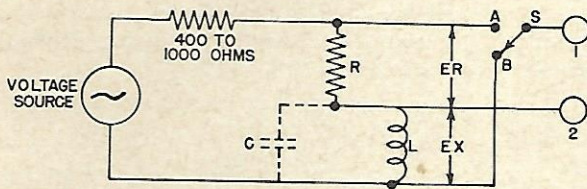

Figure 7.9—Measurement of Impedance
coupling are used, the frequency range may be extended to high radio frequencies. In Figure 7.9 the oscillograph is connected to terminals 1 and 2. With S in position B and R adjusted to zero, note the deflection. With S in position A increase R until pattern amplitude is one-half. Readjust R until ER and EX produce the same deflection. The impedance of C or L now equals R at the test frequency.
7.16 Phase—When the oscillograph input sensitivity is uniform for both the vertical and horizontal axes and equal voltages are applied simultaneously to each axis, the set-up shown in Figure 7.9 can be used to demonstrate phase relationship. Use a capacitor at C and adjust R to the reactance of C at the test frequency. Apply the voltage ER to the vertical and horizontal axes. This will produce a straight line pattern at a 45° slope and indicates 0° phase shift. A 360° phase shift will produce an identical pattern. Now disconnect the horizontal from ER and apply voltage EX. This will produce a circle and indicates a 90° phase shift. A 270° phase shift will produce an identical pattern. Replace C with a resistor equal to R. This will produce a straight line pattern at right angles to the position of the 0° phase shift line and indicates 180° phase shift. Intermediate phase angles will produce elliptical patterns displaced between the 0 to 360° patterns.